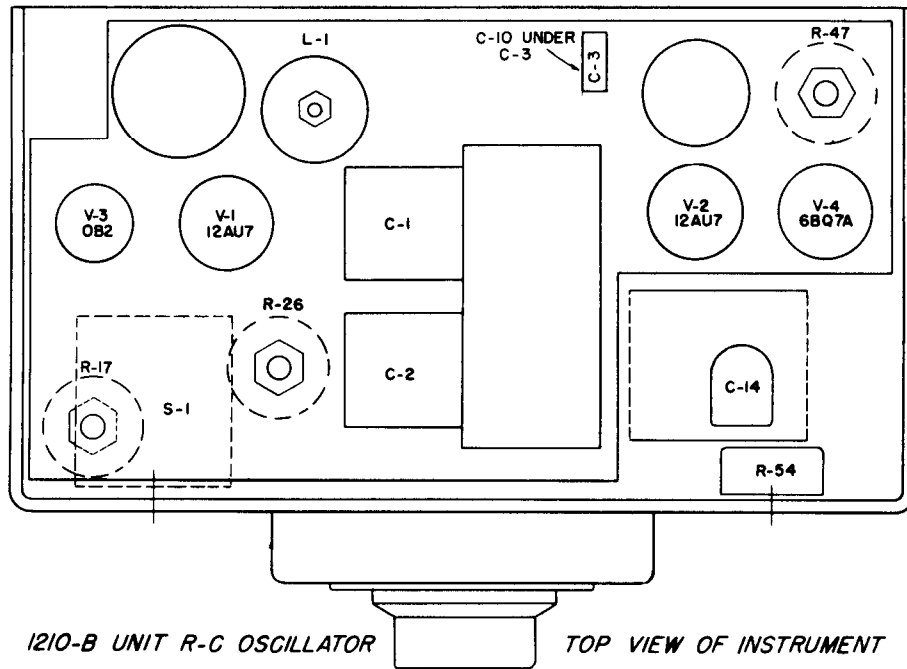

Figure 3. Tube and Adjustment Chart.
2.3.3 For square-wave output, a Schmitt circuit is used. This circuit yields excellent square waves with a minimum of components and adjustments. Equality of pulse lengths can be obtained by adjustment of R47 (see Figure 3). Overshoot can be set at about 1% by adjustment of C14. Rise time is normally about a quarter of a microsecond. With a 200-ohm load and a slight readjustment of C14, a rise time of about one-tenth microsecond can be obtained.